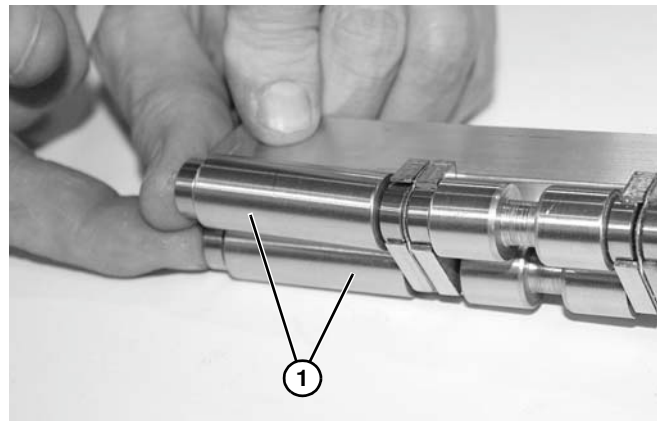

Figure 109
7. Remove spindles (**Figure 109, item 1**).